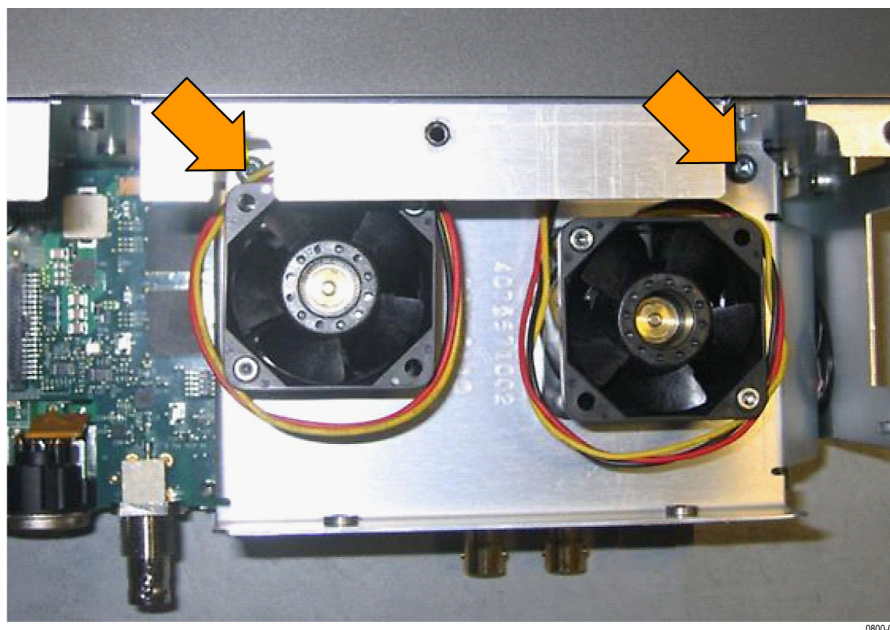

Figure 5: Screws that attach fan bracket to main chassis
1. Remove the two pan-head 32 X 0.250 T15 screws that attach the fan bracket to the main chassis. When reassembling, tighten these to 0.9 N-M (8 in/lb). When reinstalling the fan bracket, make sure not to pinch any cables between the fan bracket and the main chassis. (See Figure 5.)